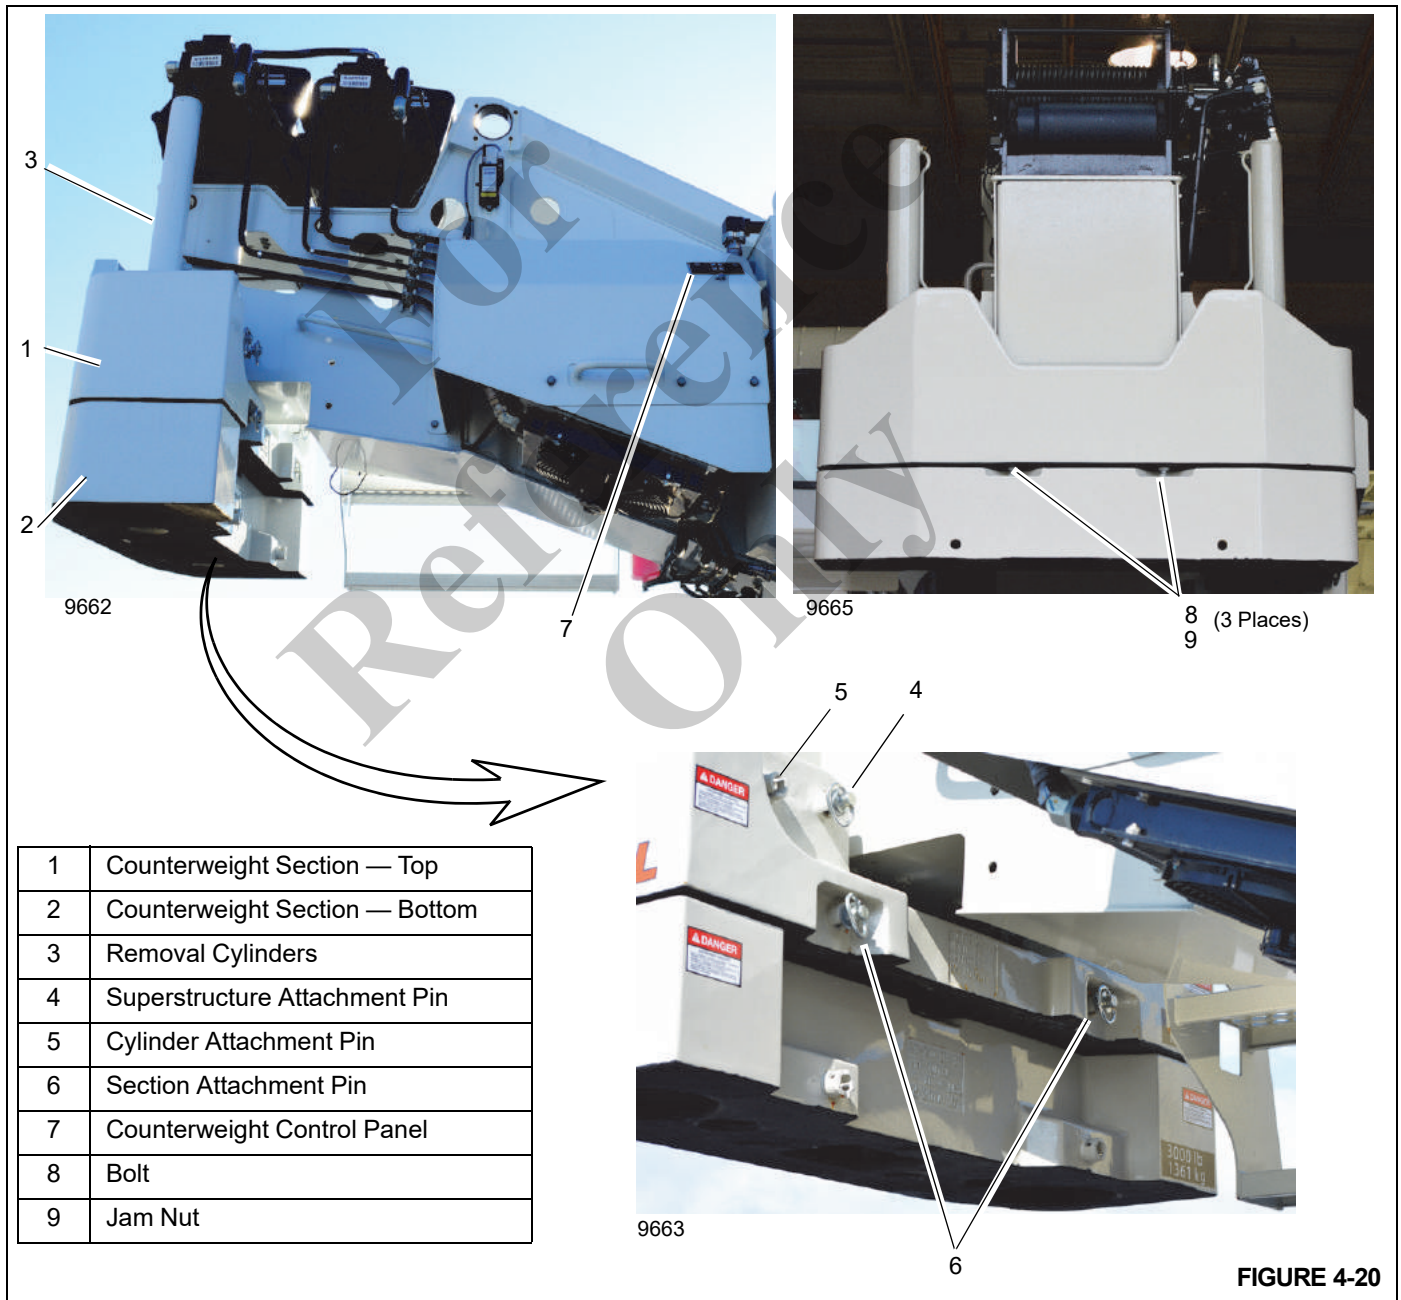

FIGURE 4-20
Refer to Figure 4-20 for an illustration of the components that make up the counterweight.
Use the following procedure to install the 3000 lb (1360.8 kg) top counterweight section (1, Figure 4-20) on a NBT60L crane.
6. Retract left and right pins (4, 5, Figure 4-20) as necessary from the counterweight.
9. Attach the counterweight to cylinders using pins (5, Figure 4-20).
11. Secure Removable Counterweight to left and right sides of superstructure using superstructure attachment pins (4, Figure 4-20).
Use the following procedure to stow the 3000 lb (1360.8 kg) top counterweight section (1, Figure 4-20) on the NBT60L.
6. If not done, install the left and right cylinder attachment pins (5, Figure 4-20) to secure the counterweight to the cylinders.
8. Remove the superstructure pins (4, Figure 4-20) that secure the counterweight to superstructure.
11. Remove cylinder attachment pins (5, Figure 4-20) that secure the counterweight to the cylinders.
7. If necessary, retract left and right pins (5, Figure 4-20) from the cylinder on the top counterweight.
If the crane is equipped with top and bottom counterweight sections (1, 2, Figure 4-20) and only the top section is to be loaded, remove only the left and right pins (5, Figure 4-20) that secure the top and bottom sections together. Do not remove pins that secure the lower counterweights to the carrier deck.
10. Attach removable counterweight to cylinders using section attachment pins (6, Figure 4-20).
6. Remove the superstructure pins (4, Figure 4-20) that secure the counterweight to superstructure.
9. Remove section attachment pins (6, Figure 4-20) that secure removable counterweight to the top counterweight.